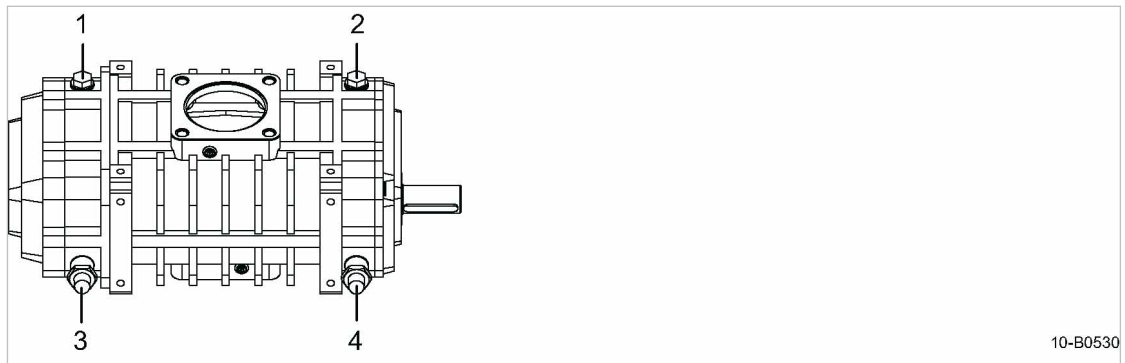

Fig. 28 Replenishing lubricating oil
2. Open the filler plugs at the oil inlet of the blower block ① and ② (Fig. 28).
3. Take off the caps ① and ② and open the oil drain taps ③ and ④.
3. Close the oil drain taps ③ and ④.
4. Check the oil level in both sight glasses (Fig. 28) and top off as necessary.
5. Screw on the caps ① and ②.